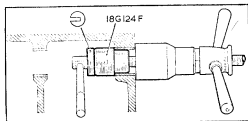

Fig.20 - Front bearing liner - withdrawal procedure
1. Withdraw the front bearing liner, using the Camshaft liner remover 18G124A (basic tool) and adaptor 18G124F, as illustrated Fig. 20.